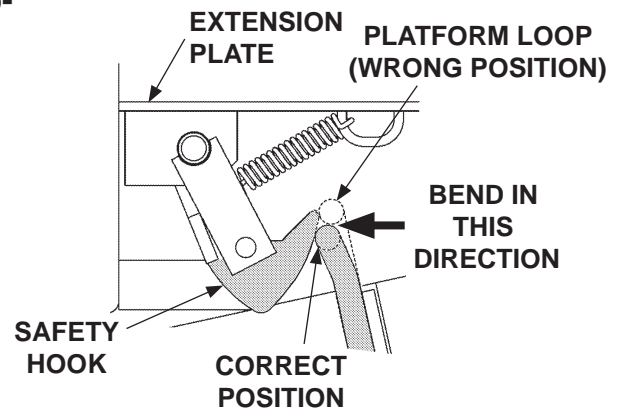

FIG. 23-2
2. Adjust by bending the platform loop as shown in **FIG. 23-2**.